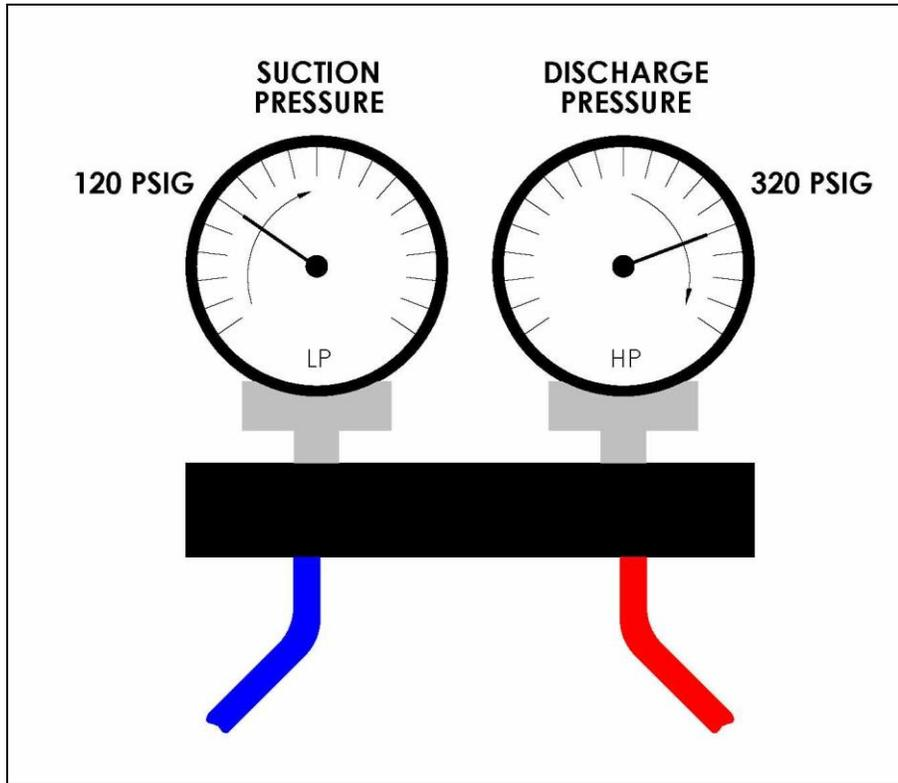

Figure 32. Mimimum Suction and Discharge Pressures
3. As shown in Figure 32, when the **compressor discharge pressure reaches 320 psig (HP gage) and the suction pressure reaches 120 psig (LP gage) the CAV is closed.**